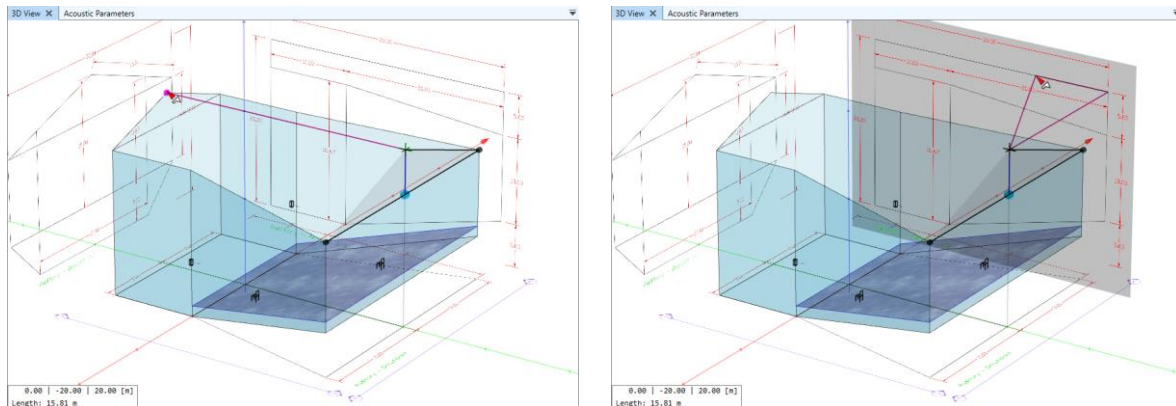

Figure 6.11 The tip of the back wall is inferred by using a Z-constraint and projecting from the tip of the front face (left) or from the drawing (right).
- If a point is snapped or a drawing is hovered, the coordinates are projected onto the plane of the plane constraint or the line representing the axis constraint (Figure 6.11).